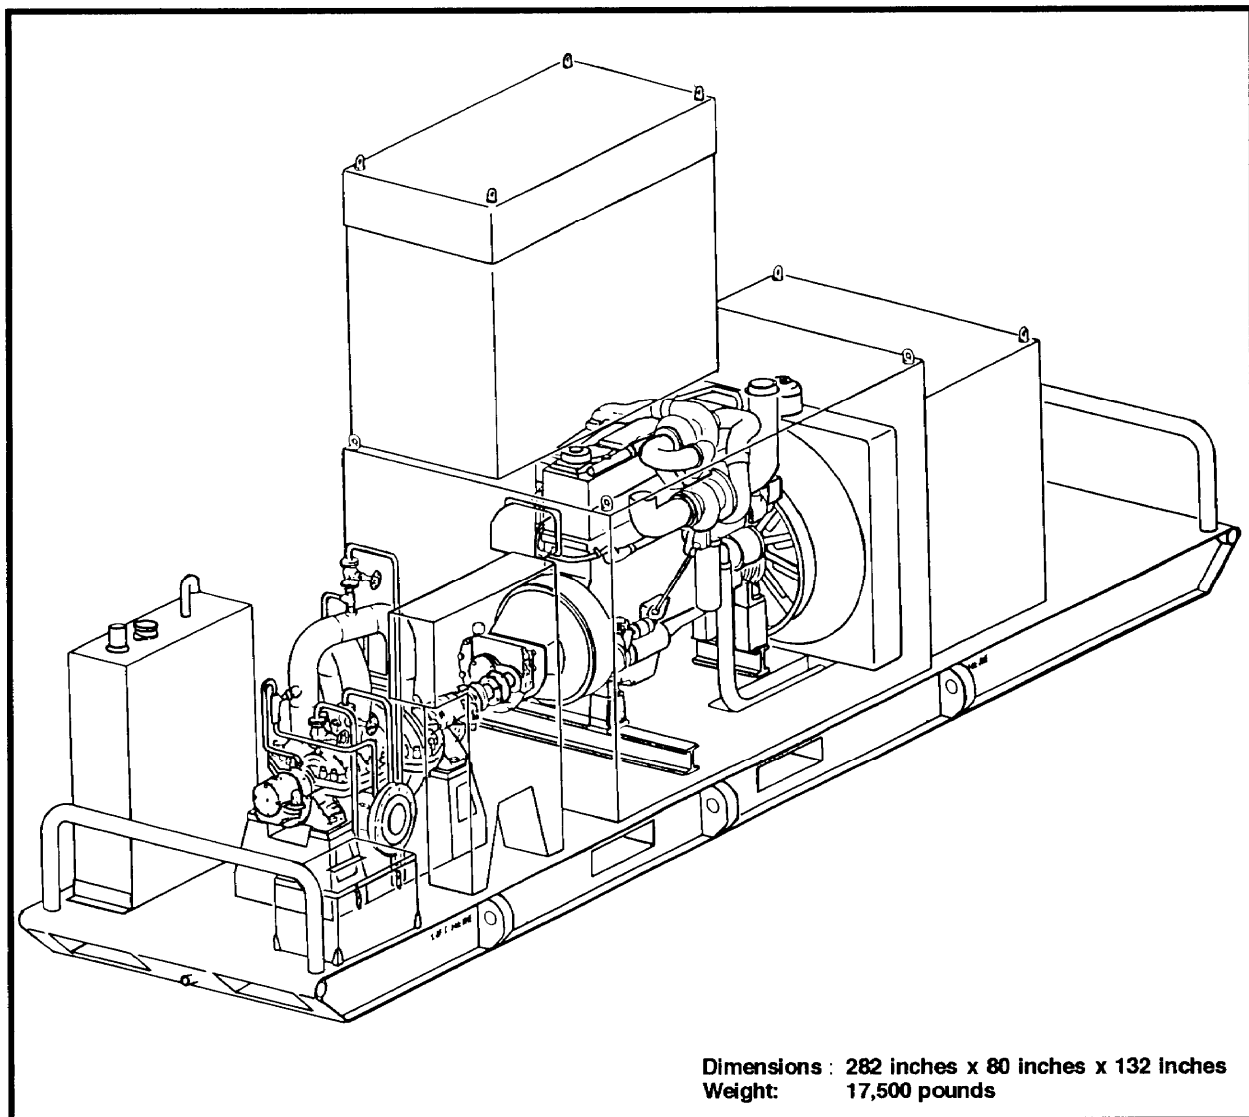

Figure 2-15. 6-inch, 3-stage, 800-GPM mainline pump (IPDS)
(1) 6-Inch, 3-Stage, 800-GPM Mainline Pump (IPDS) (Figure 2-15). This is a skid-mounted, diesel-engine-driven, centrifugal pump with an operational output of 800 GPM at 1,800 feet of head when pumping liquids with a specific gravity of 0.85. This rated capacity is delivered when any axis of the pumping assembly is positioned at any angle up to 5 degrees from the horizontal. The pumping assembly is suitable for operation at design capacity and head from -25°F to +135°F and